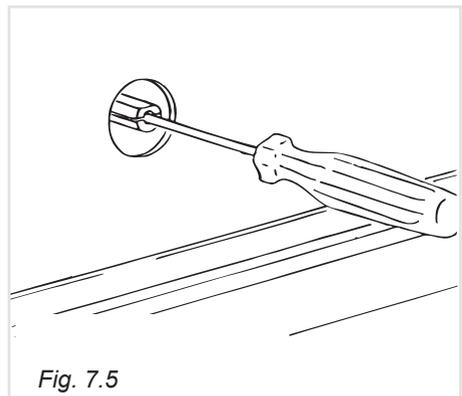

Fig. 7.5
- Using a wrench, substitute the nozzle injectors "J" (fig. 7.5) with those most suitable for the kind of gas for which it is to be used.
- With a small flat screwdriver turn the screw inside the tap rod to the correct regulation (fig. 7.5).